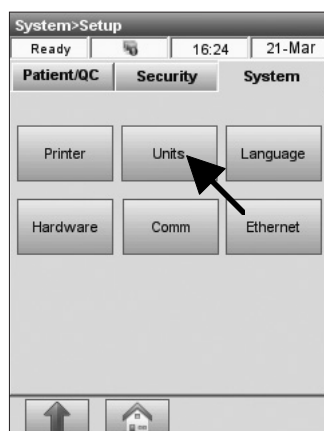

Fig. 3-66 Select Units
2. In the **<System Setup>** menu, press the **<System>** tab, then press **<Units>** (Fig. 3-66).